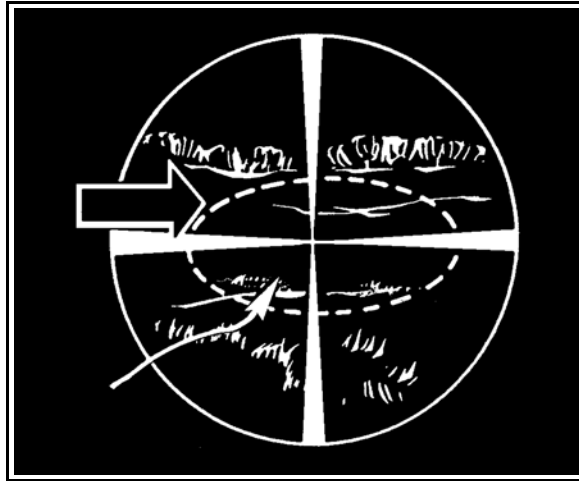

Figure 5. Large kill zone.
e. The kill zone is large enough to permit the M2 or Dragon gunner to acquire, fire, track, and hit a target vehicle. Generally, if the gunner looks through his sights at the kill zone and no obstructions are in the field of view, the kill zone is large enough (Figure 5).